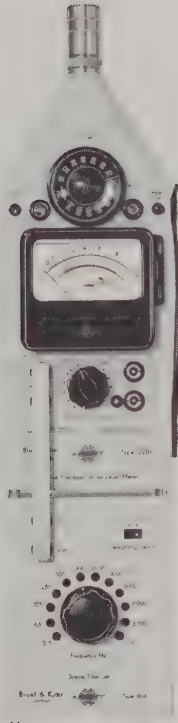

Fig. 3.2. *The 1613 mounted on the Impulse Precision Sound Level Meter Type 2209*
3. Plug in the Connecting Bar JP 0400 supplied with the 1613 to connect the Sound Level Meter and the Filter Set. The portable analyzer thus obtained is shown in Fig.3.2.